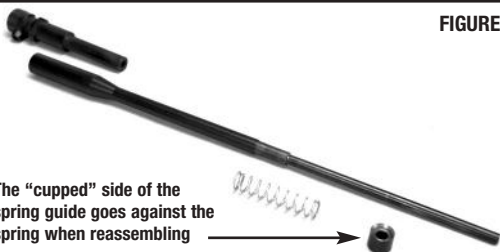

FIGURE A9
The parts are not fastened together - be certain that you withdraw all parts shown in FIGURE A9 when you remove the piston assembly.
- The gas piston/operating rod assembly is made up of 4 parts (FIGURE A9). After cleaning these parts, lubricate them lightly to prevent rust and corrosion, reassemble the parts as shown (FIGURE A10) and re-install in rifle.